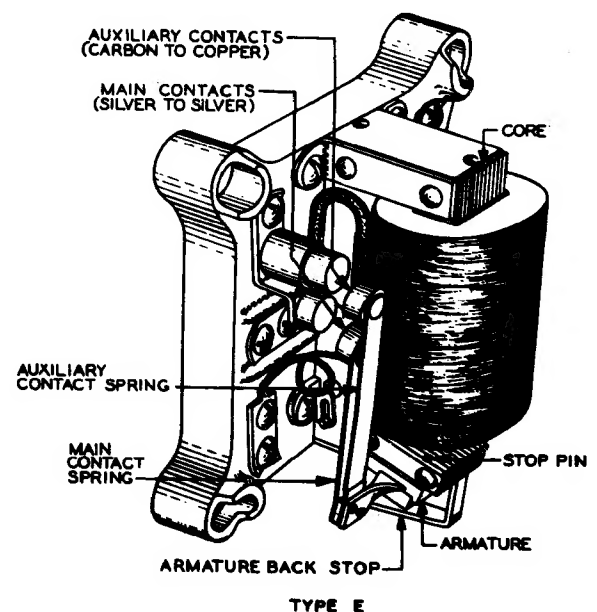

Fig. 1 - KS-3067 Relay
1.10 Checks and adjustments shall be made with the relay mounted in a vertical position (see Fig. 1).
- (b) Armature backstops of the type shown in Fig. 1 shall be fastened securely to the brass yoke at the base of the core.
- (1) All normally open contacts shall make and break simultaneously.
- (2) All normally closed contacts shall break and make simultaneously.
- (b) On relays with auxiliary contacts, such as the E type (see Fig. 1)
- (1) Auxiliary contacts shall make before the main contacts make and break after the main contacts break.
- (2) Both main contacts shall make and break simultaneously.
- (3) Both auxiliary contacts shall make and break simultaneously.